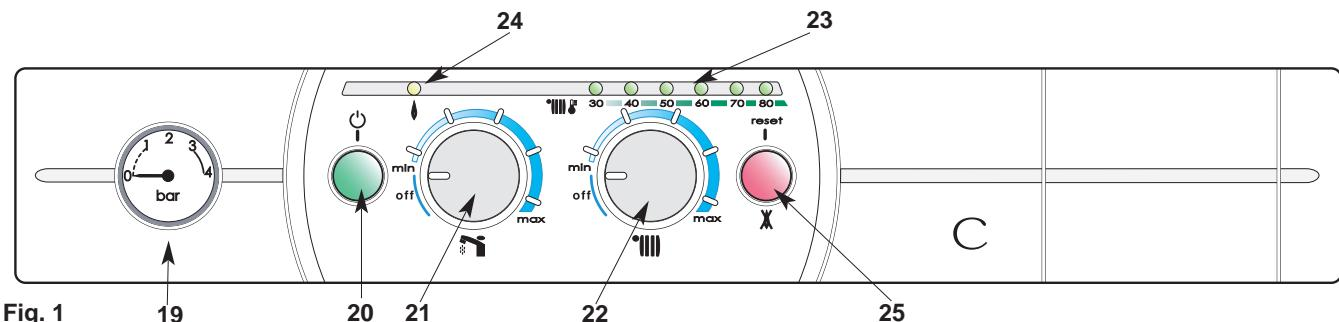

Fig. 1
Control panel (Fig. 1)
- turn the control knobs 21 and 22 to the «off »position (fully anti-clockwise), button 20 (Fig. 1) remains lit. The appliance remains in stand-by mode unless the anti-frost device is activated.
Remember to re-open it at the start of the heating season, when you switch the heating back on by rotating button 22 (Fig. 1) or by turning the clock on.
The boiler is fitted with a safety system which authorises operation of the burner. If this device does not detect movement in the flue the boiler will shut down for safety reasons, and indicators 40, 60 and 80 flash **23** (Fig. 1).